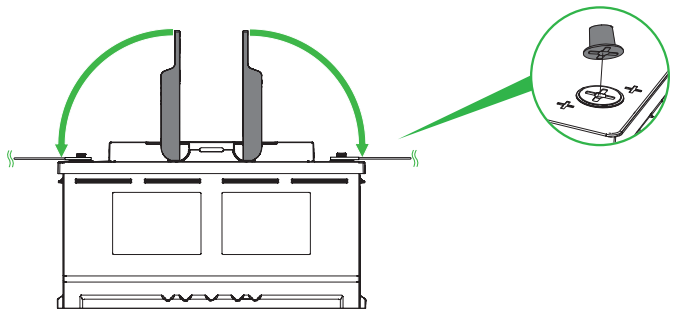

Figure 9. Place the handle covers the terminals
5. Place the handle covers over the terminals. (Figure 9)